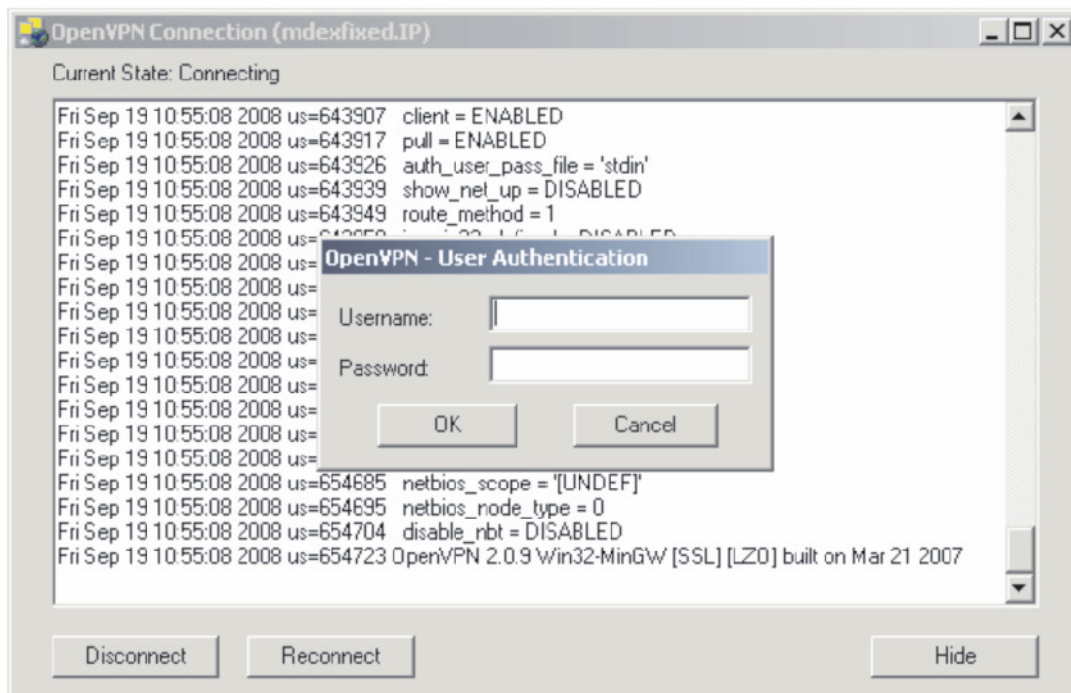

Figure 16 Establish connection in OpenVPN
2. Enter username and password (Figure 16). These are supplied by the VPN server provider.